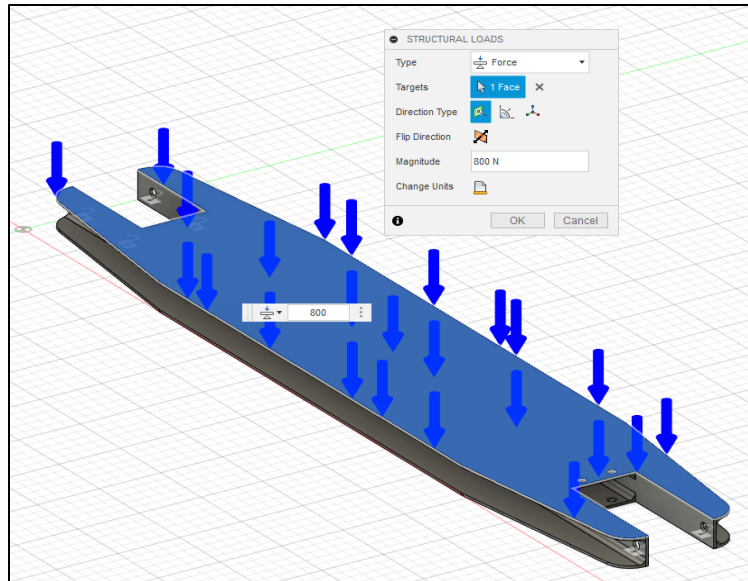

Figure 21. Applying a distributed load of 800N.
4. To set the load on the structure, select the top surface of the board and set the magnitude to 800N. In this exercise, the load set will be the default distributed load in Fusion 360. See Figure 21.